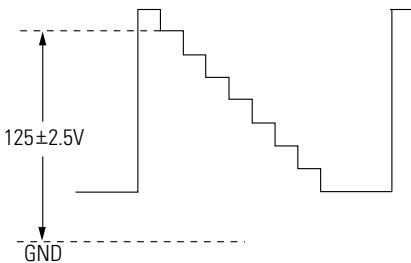

Fig. 4-1
4. Adjust the Screen VR (on the FBT) so that the voltage on the oscilloscope becomes $125\pm2.5V$ (See Fig. 4-1).